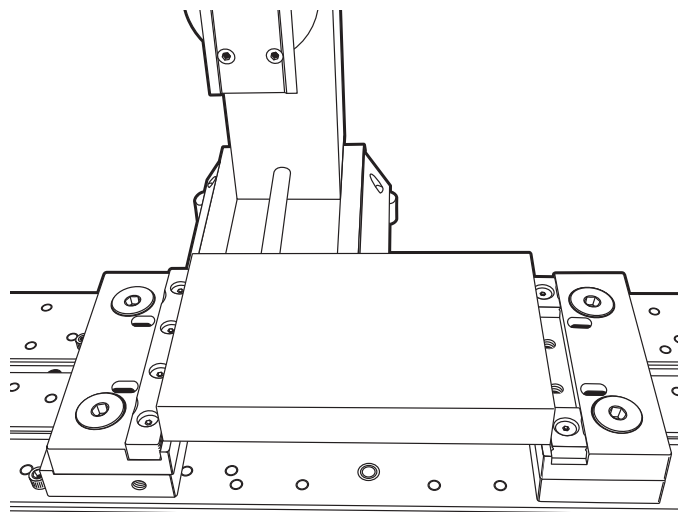

FIGURE 13
11. Place your stock on the “part locating step” of the fixed jaw. Then move the movable jaw assembly in until the stock is resting on the movable jaw locating step. Then push the movable jaw assembly in until the face of the clamping insert makes contact with the side of the part (see Figure 13).